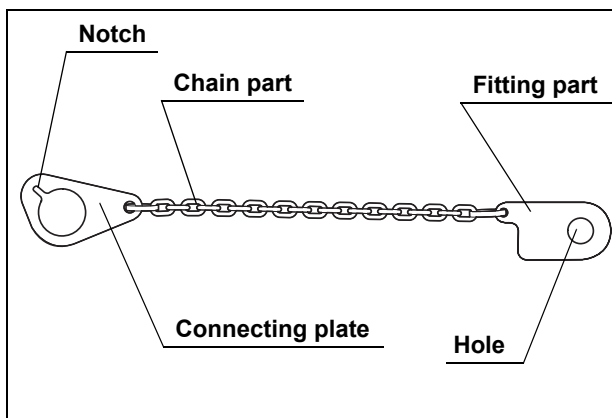

Figure 2.1
1. Confirm that the chain for water-resistant cap is free from cracks, flaws, wear, deformation, or other damages (see Figure 2.1).